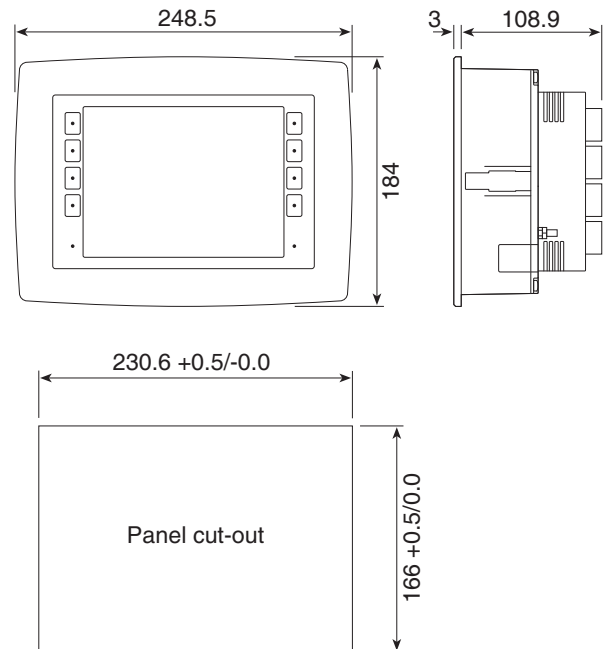

Fig 9 Pageant Operator Display dimensions including plug-in modules and panel cut-out.
Fig 9 shows the overall dimensions including the plug-in modules and the recommended panel cut-out dimensions.
1. Cut the aperture specified in Fig 9 in the instrument panel or enclosure and ensure that all edges are de-burred.